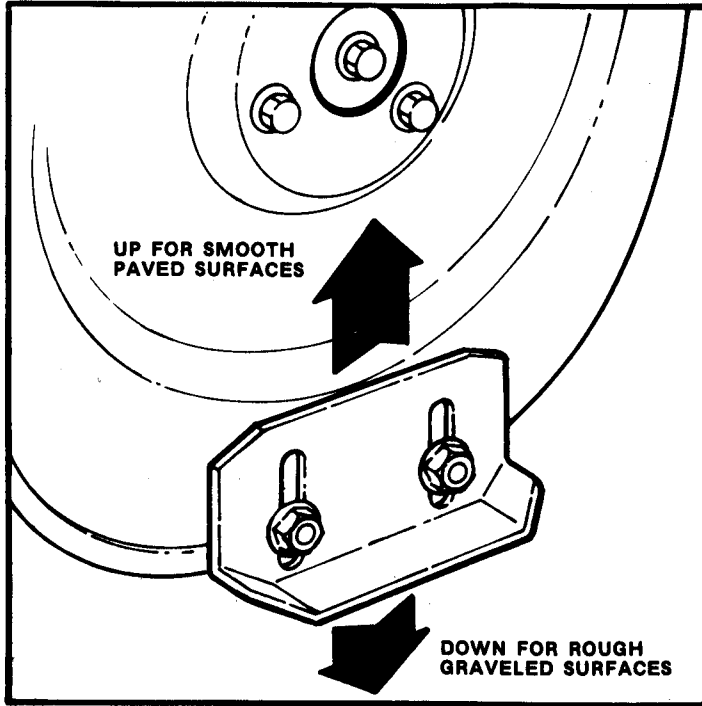

FIGURE 3.7
- E. **RESET SKID SHOES** to suit area to be cleared. Lower skid shoes to provide greater clearance over gravel, or raise the shoes for smooth, paved surface. Refer to Figure 3.7, SKID SHOE ADJUSTMENT.
The skid shoes should be lowered to raise the blower housing to clear gravelled or rough surfaces. If necessary, adjust up until almost even with the edges of the housing, to effectively clear smooth paved surfaces. Note that the skid shoes can be installed upside down to track better over icy or hard-paved surfaces. To adjust the skid shoes, place a wood block under the lower edge of the blower housing. Loosen the retaining nuts and slide shoe up or down to desired height. Retighten the nuts. Set both skid shoes in the same position. Remove block. See Figure 3.7.